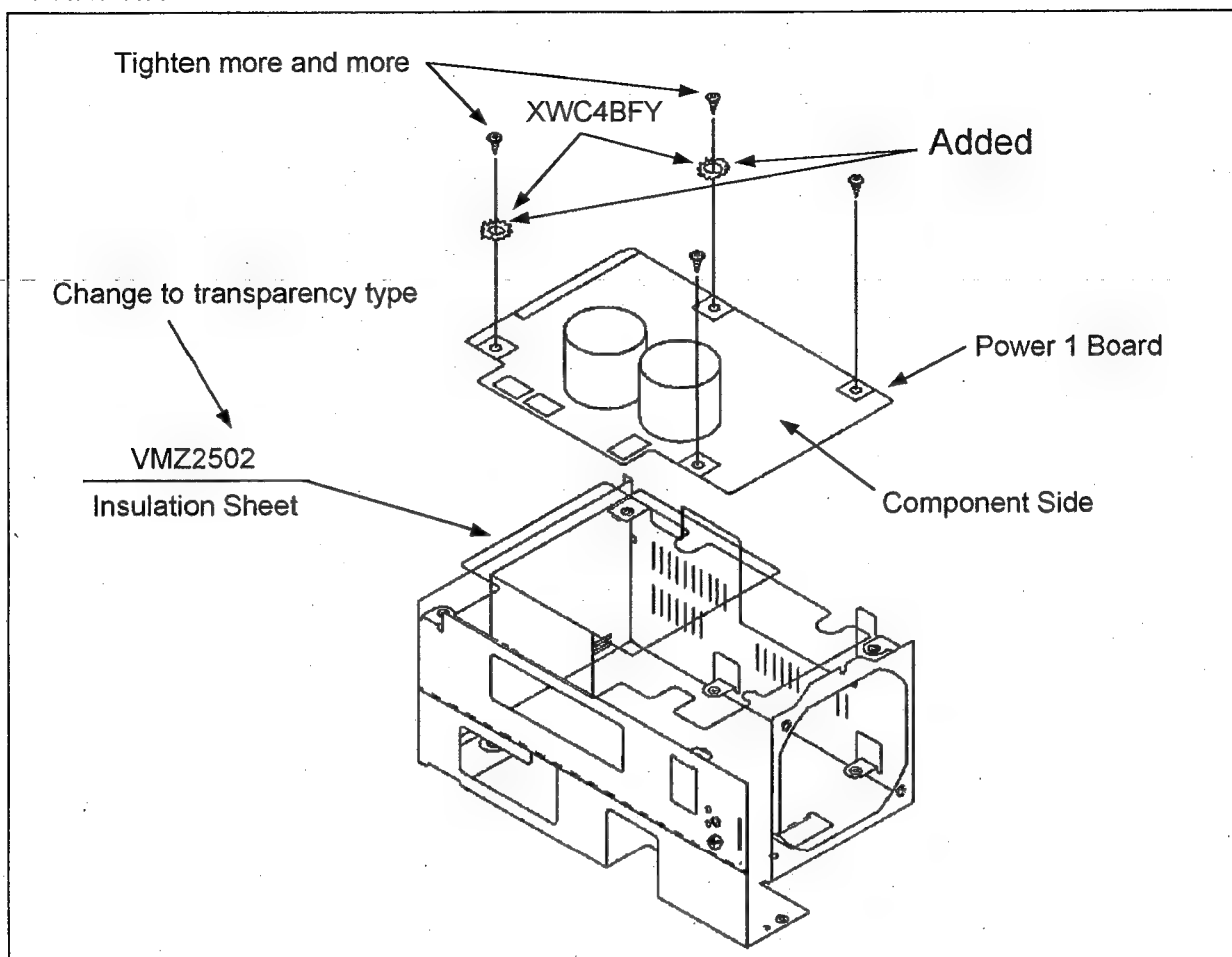

Fig. 6
- 1). After installing the Power 1 Board, two washers (XWC4BFY) are added to the fixing screws on the component side as shown in figure 6.
- 2). After installing the two washers to the fixing screws, they are tightened more and more on the component side as shown in figure 6.
- 1). Insulation Sheet (VMZ2502) is changed to transparency type as shown in figure 6.
- 2). After installing the Power 1 Board, two washers (XWC4BFY) are added to the fixing screws on the component side as shown in figure 6.
- 3). After installing the two washers to the fixing screws, they are tightened more and more on the component side as shown in figure 6.